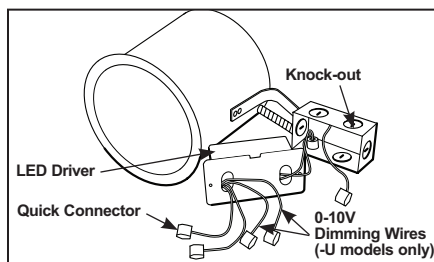

Figure 5
Step 2. Remove junction box cover. Remove the appropriate knock-out(s) to accommodate the type of electrical supply being used. (Fig. 5)
Step 3. Strip supply wire 3/8" and insert each supply wire into appropriate connector. Connect black fixture wire to hot, white fixture wire to neutral and green fixture wire to ground. (Fig. 5).
Step 4. Open junction box to access wiring. (Fig. 5)